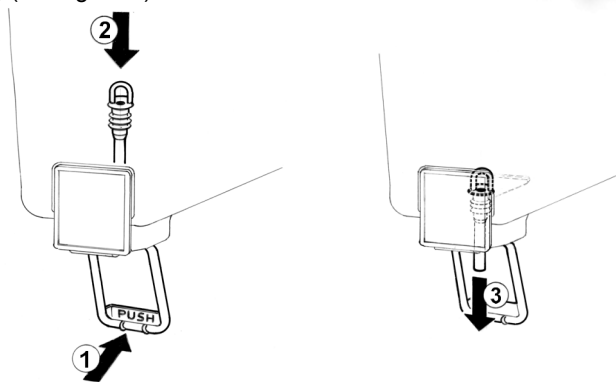

figure 5
- 2 **Pinch tube faucet:** push the dispensing handle (1) and insert the pinch tube into its vertical seat in the bowl bottom (2). Lightly pull the pinch tube end downwards til itl is well arranged (3) (see figure 5).